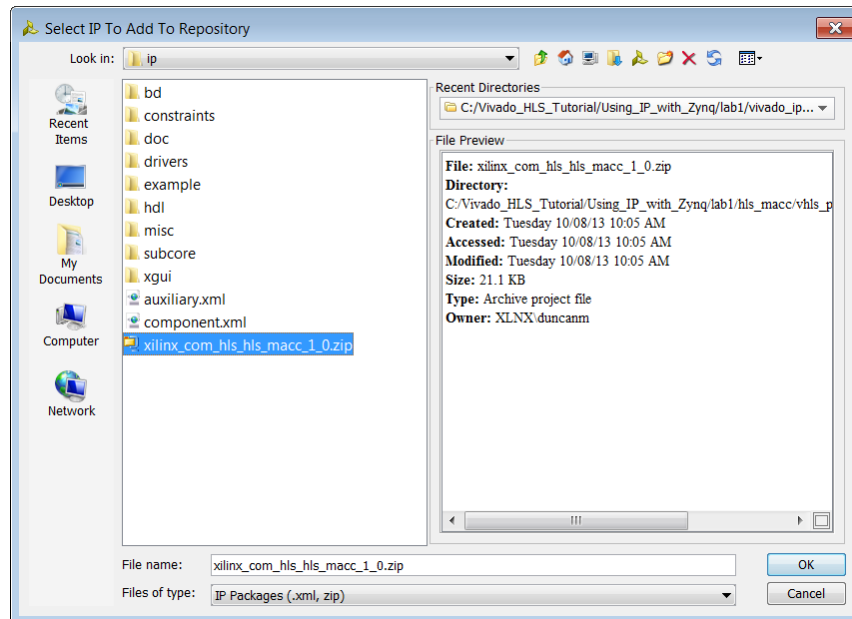

Figure 224: Add IP to the Repository
- c. Select the IP Catalog package Xilinx_com_hls_hls_macc_1_00)a.zip file (**Figure 224**).